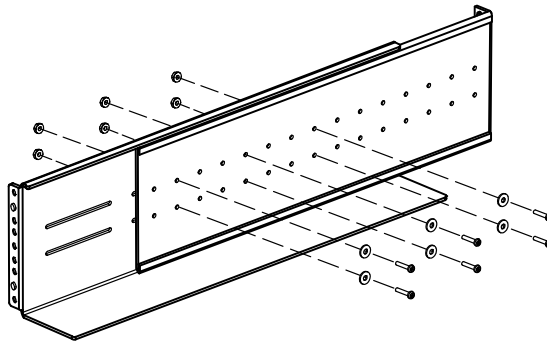

Figure 1. Assembling the Rails
3. Loosely assemble the left and right rails using six #6-32 \times 0.75" screws, #6 flat-head washers, and #6-32 Keps nuts (see Figure 1).